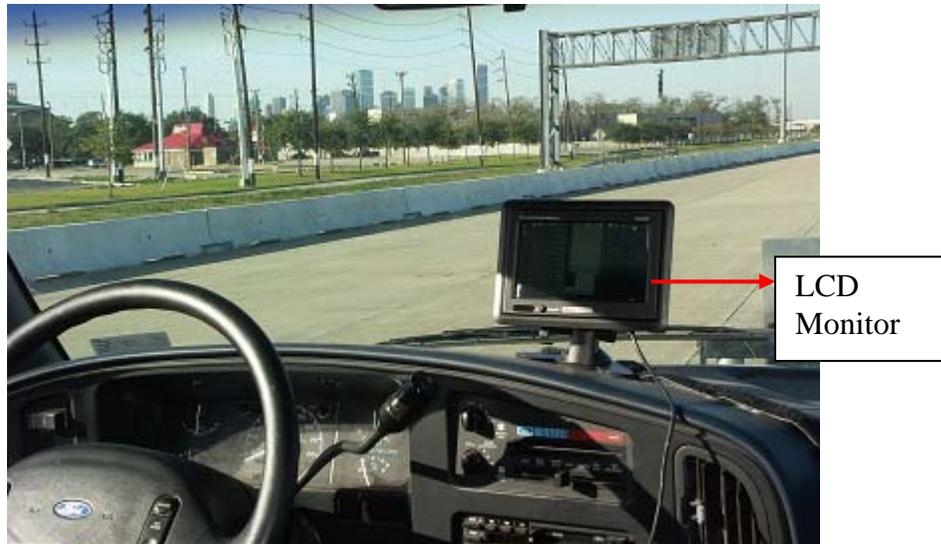

Figure 11 Monitor inside the vehicle.
- **Camera:** monitors the driving direction to help the driver direct the vehicle advancing along the pavement marking tape. There is a monitor installed inside the vehicle for displaying the driving situation. Figure 11 shows the monitor inside the vehicle.